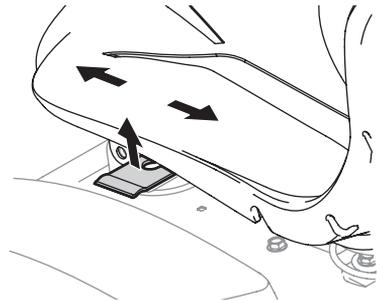

Figure 13
3. Release the adjustment lever. Ensure seat is locked in position before operation (Figure 13).